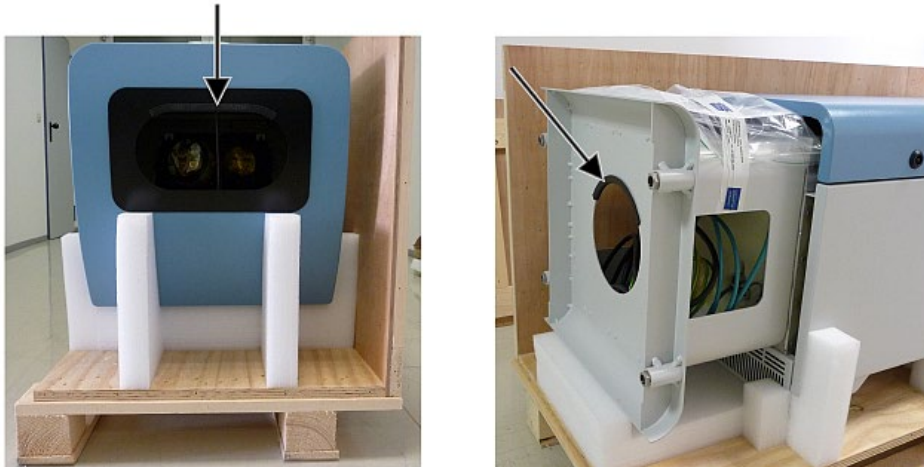

Figure 8 Lifting positions and handle protection (edge protection profile).
- ⇒ Hand truck: For greater distances to the concrete foundation (Figure 8)
⇒	When transporting with a hand truck, make sure that the CHM 15k is placed on the hand truck with the exterior door facing downwards (see Figure 8)